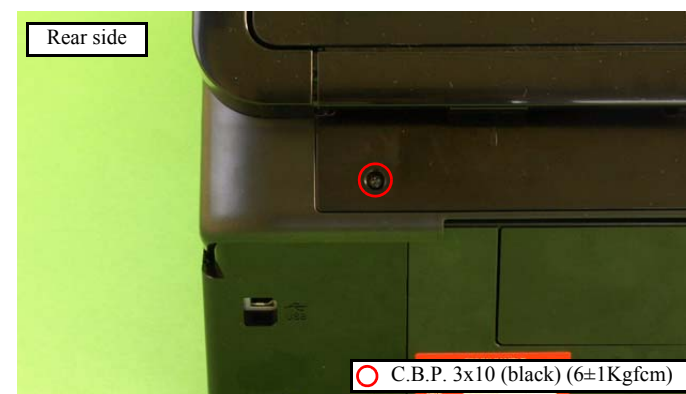

Figure 4-205. Removing the Scanner Unit (2)
3. While aligning and inserting the rib of the Scanner Unit to the groove of the Hinge, secure them with the screw (x1) temporarily with the screw holes aligned as shown in Fig. 4-205. It is recommended to prepare a pillow-shaped supporter to keep this position. (See Fig. 4-10.)